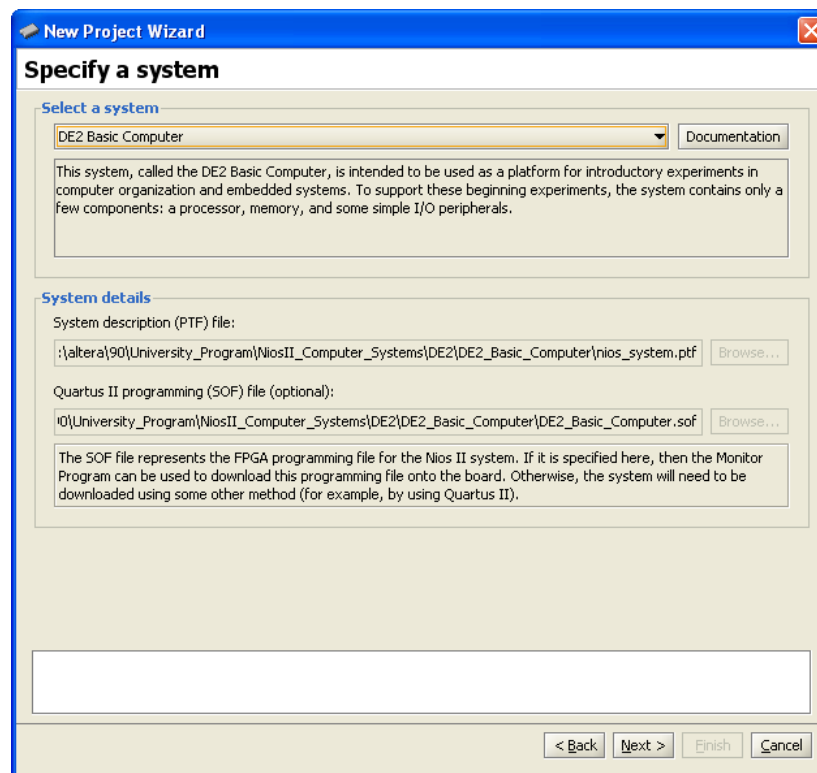
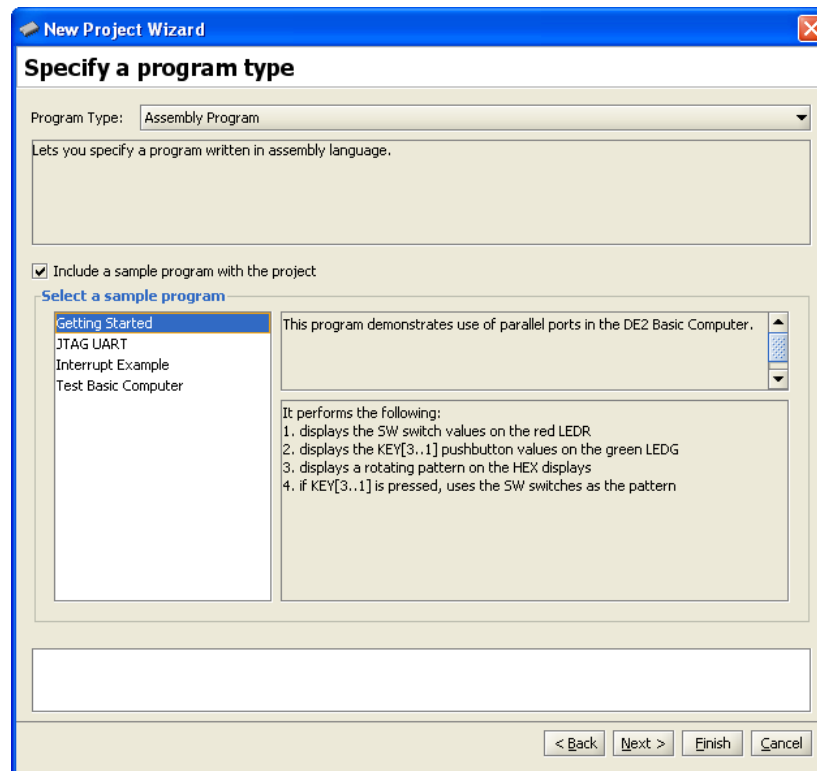
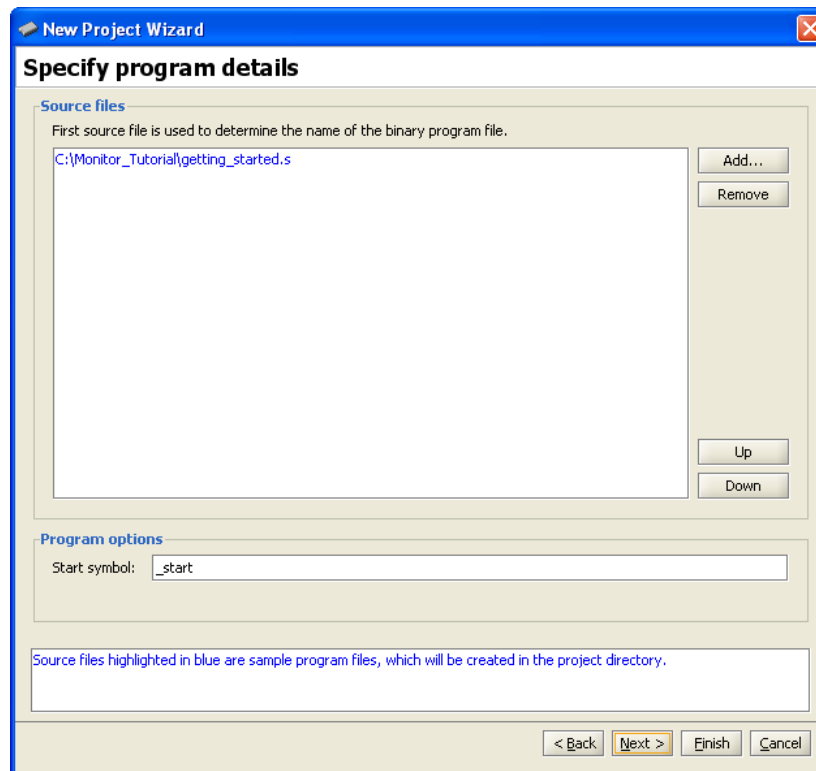

Figure 7. Specifying the Nios II hardware system.
Figure 8. Selecting a program type and sample program.
Figure 9. Specifying source code files.
2. Click **Next** to advance to the window shown in Figure 7, which is used to specify a Nios II hardware system. Nios II-based systems are described by a *.ptf* file, which is generated by the Altera SOPC Builder tool when the system is created. More information about creating systems using SOPC Builder can be found in the tutorial called *Introduction to the Altera SOPC Builder*, available in the University Program section of Altera's website. An optional *.sof* file, if specified, represents the FPGA circuit that implements the Nios II-based system; this file can be downloaded into the FPGA chip on the board that is being used.
As depicted in Figure 7, select the pre-built system named *DE2 Basic Computer*. In the top right corner of the screen there is a **Documentation** button. Clicking on this button opens a user guide that provides all information needed for developing Nios II programs for the DE2 Basic Computer, such as the memory map for addressing all of the I/O devices in the system. This file can also be accessed at a later time by using the command **Settings > System Settings** and then clicking on the **Documentation** button.
3. Click **Next** to advance to the screen in Figure 8, which is used to specify the program source files that are
For this example, set the program type to **Assembly Program**. When a pre-built Nios II computer system has been selected for the project, as we did in Figure 7, it is possible to click on the selection **Include a sample program with the project**. As illustrated in Figure 8 several sample assembly language programs are available for the DE2 Basic Computer. For this tutorial select the program named *Getting Started*. Click **Next** to advance to the screen in Figure 9. When a sample program has been selected, the source code
Figure 9 shows that it is possible to specify the label in the assembly language program that identifies the first instruction in the code. In the *getting_started.s* file, this label is called `_start`, as indicated in the figure.